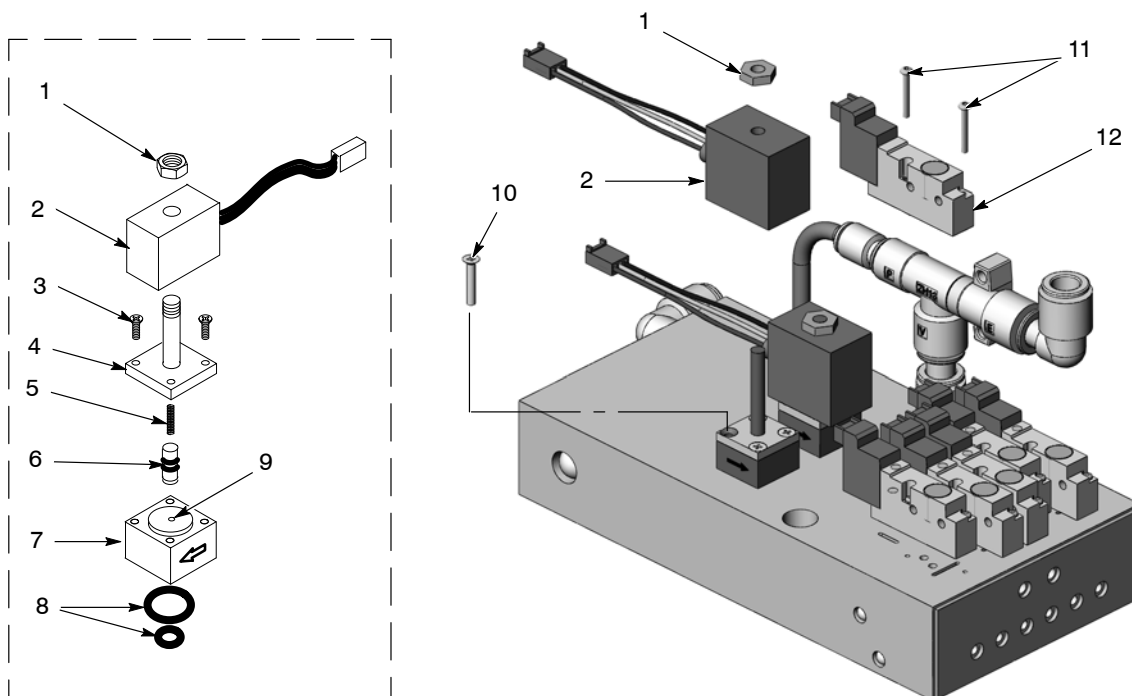

Figure 42 *Manifold Repair*
1. See Figure 42. Remove the nut (1) and coil (2) from the flow control valve.
2. Remove the two long screws (10) to remove the flow control valve from the manifold.
3. Remove the two short screws (3), then remove the valve stem (4) from the valve body (7).
4. Remove the valve cartridge (6) and spring (5) from the stem.
5. Clean the cartridge seat and seals, and the orifice (9) in the valve body. Use low-pressure, compressed air. Do not use sharp metal tools to clean the cartridge or valve body.
See Figure 42. Remove the valve by removing the nut (1), coil (2), and long screws (10).
See Figure 42. To remove the solenoid valves, remove the two screws (11) in the valve body and lift the solenoid valve (12) off the manifold.